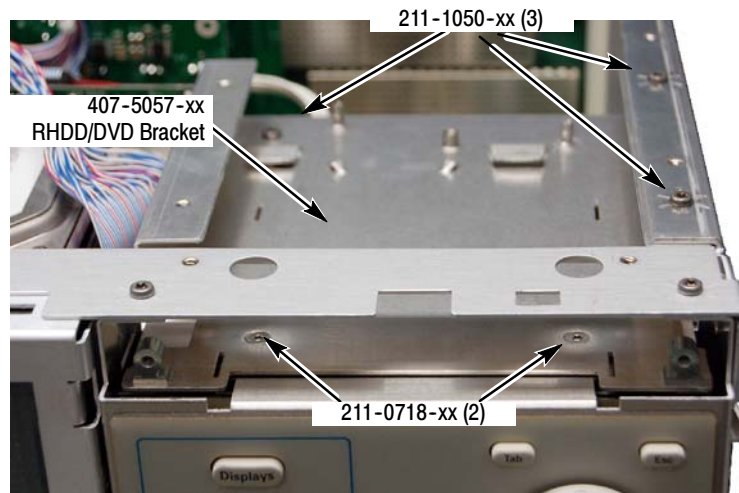

Figure 14: Installing the RHDD/DVD drive bracket
- 10.** Using a T15 driver, install the three screws at the side and rear of the bracket. Tighten the screws to 8.0 in-lb. See Figure 14.
- 11.** Using a T10 driver, install the two flat-head screws at the front of the RHDD/DVD bracket. Tighten the screws to 8.0 in-lb. See Figure 14.